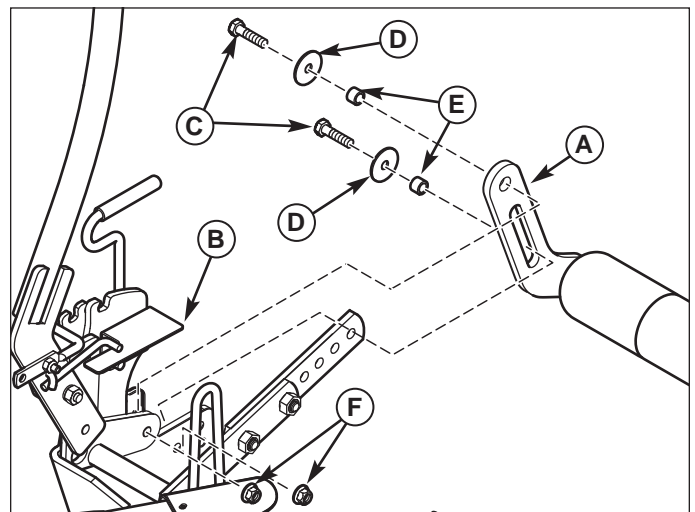

Figure 6. Attach Roller Bar to Mower Deck Right Side
3. Attach the roller bar assembly (A, Figure 6) to the right side of the mower deck (B) using two 5/16-18 x 1-1/4 capscrews (C), two flat washers (D), two spacers, and two 5/16-18 flanged locknuts (E) as shown. Tighten nuts to 11 ft. lbs. (15 Nm)